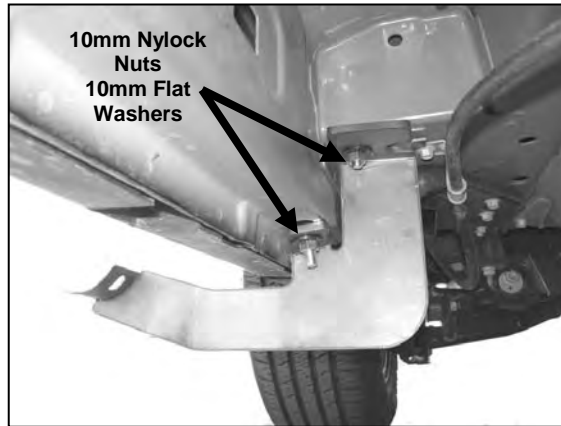

Figure 7
- Determine passenger and driver side rear Mounting Bracket. Position Mounting Bracket through both previously inserted Bolt Plates and partially thread (1 ea) 10mm Nylock Nut and (1 ea) 10mm Flat Washer to secure Mounting Bracket (**Figure 7**).